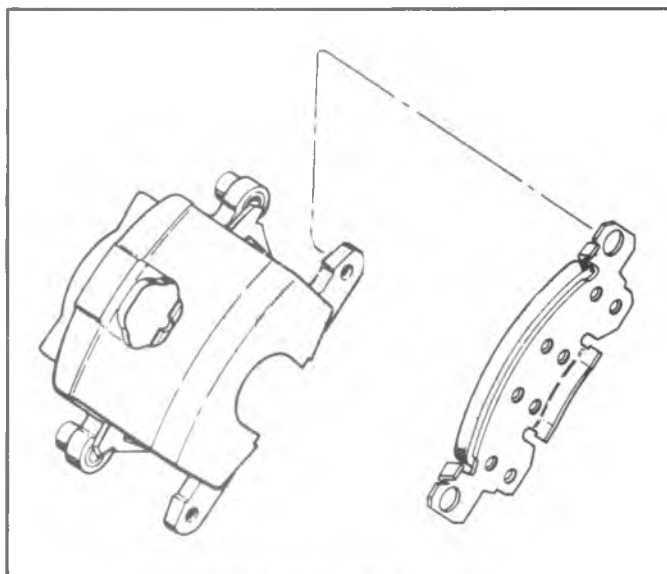

Fig. 5-28--Installing Outboard Shoe
5. Position the outboard shoe in the caliper, with the ears at the top of the shoe over the caliper ears and the tab at the bottom of the shoe engaged in the caliper cut-out (see fig. 5-28). Be sure to note right and left brake shoes.